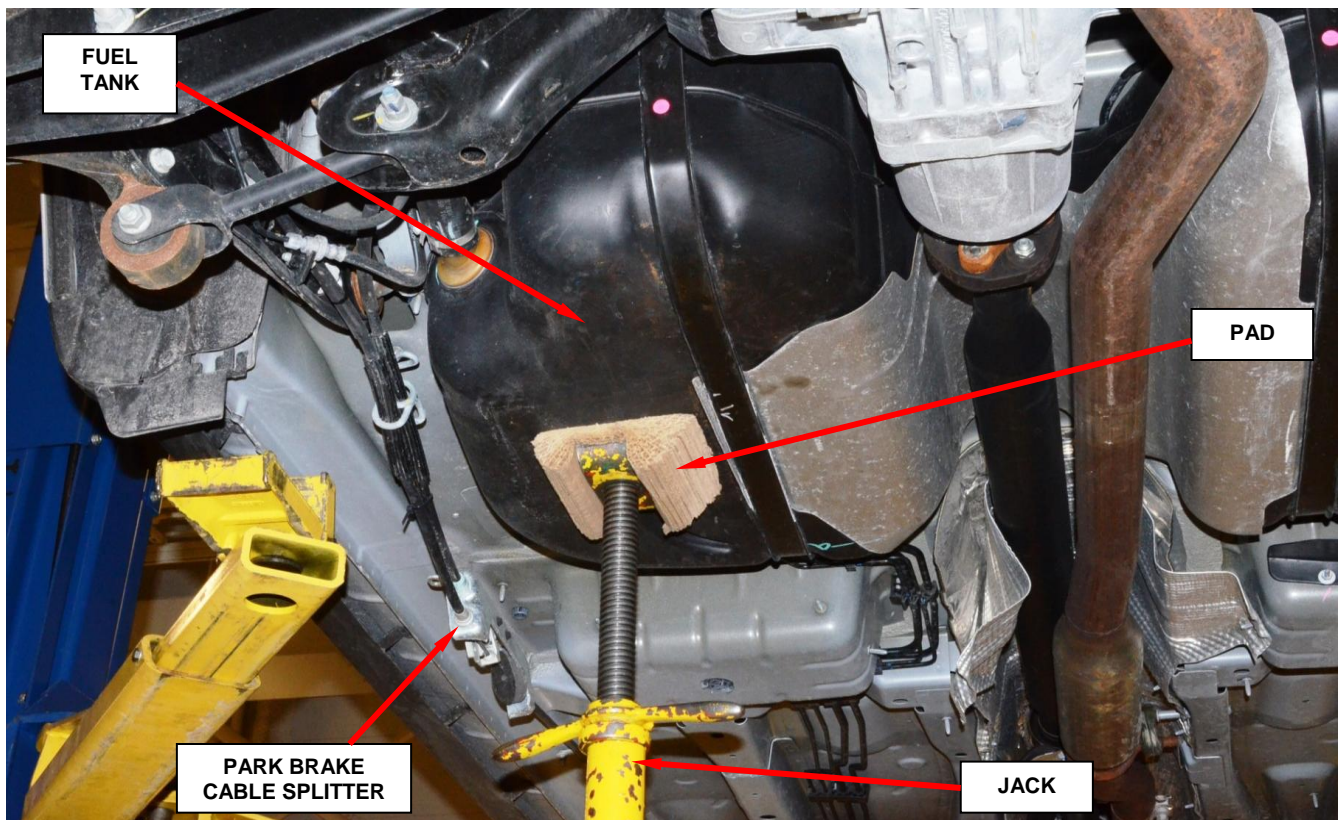

Figure 20 – Lower Left Side of Fuel Tank
28. Place a jack under the left side of the fuel tank (Figure 20).
29. Remove and save the left side fuel tank strap (Figure 20).
49. Place a jack under the fuel tank and carefully raise the fuel tank into position (Figure 20).
50. Install the left fuel tank strap and then remove the jack from under the fuel tank (Figure 20).